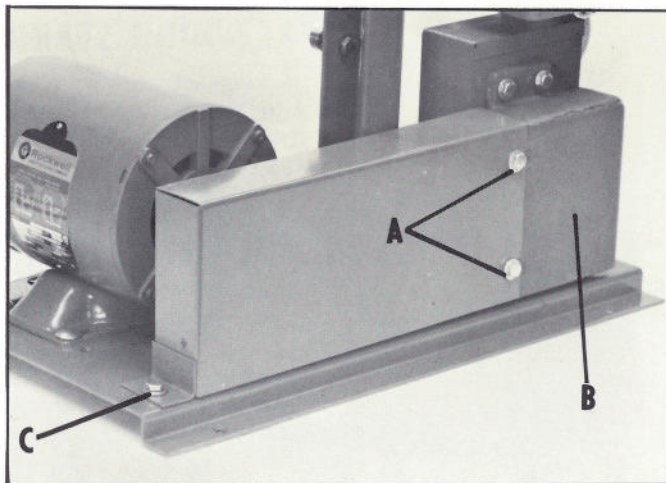

Fig. 11
If you purchased the 31-366 Belt and Motor Pulley Guard, assemble it to the machine, as shown in Fig. 11, using the two 1/4-20 X 3/8" Hex Head Screws and washers (A). The two screws are threaded into the two tapped holes in the arbor pulley guard (B). Then fasten the rear of the guard of the base plate using the 1/4-20 X 1/2" hex head screw, washer and nut (C) Fig. 11.